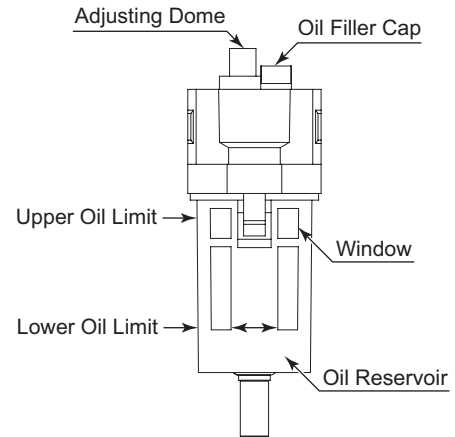

Fig. 4
#### (1) Oil Amount (Fig. 4)
(Supply Lubricating Oil to Upper Oil Level Limit of Fig. 4.)
#### (2) Replacing the Lubricating Oil and draining the water in the Lubricating Oil (Fig. 4)